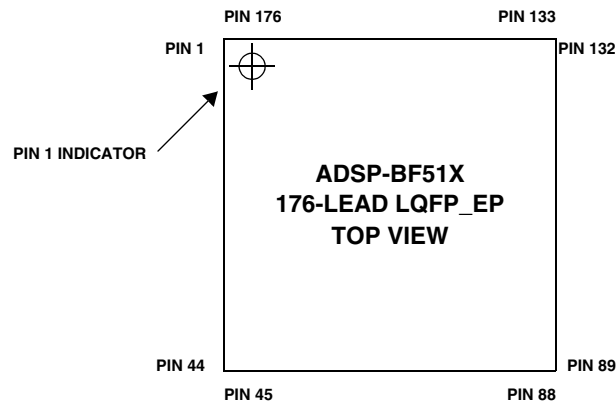
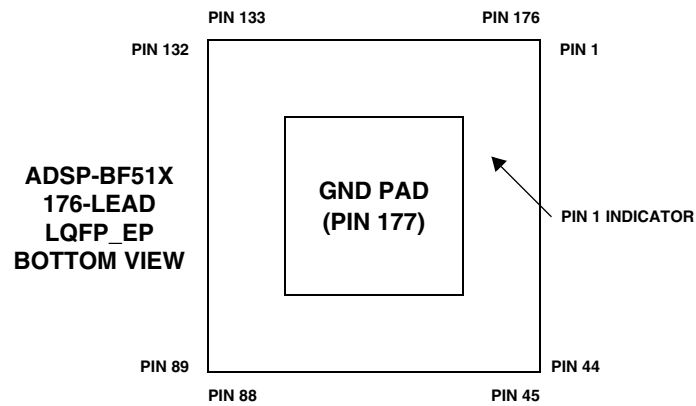

Figure 70. 176-Lead LQFP_EP Lead Configuration (Top View)
Figure 71. 176-Lead LQFP_EP Lead Configuration (Bottom View)
* Pin no. 177 is the GND supply (see Figure 71) for the processor; this pad **must** connect to GND.
Figure 70 shows the top view of the LQFP_EP lead configuration. Figure 71 shows the bottom view of the LQFP_EP lead configuration.